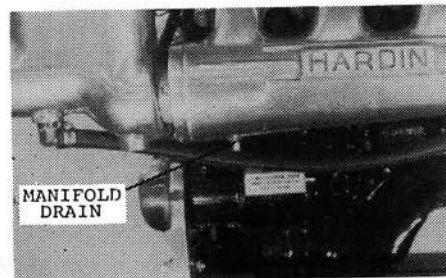

Figure 19
- b. Open drain plugs in manifold and close engine drain petcocks and apply more flushing water. Manifold drains are located in the lower rear portion of the manifold (See Figure 19).